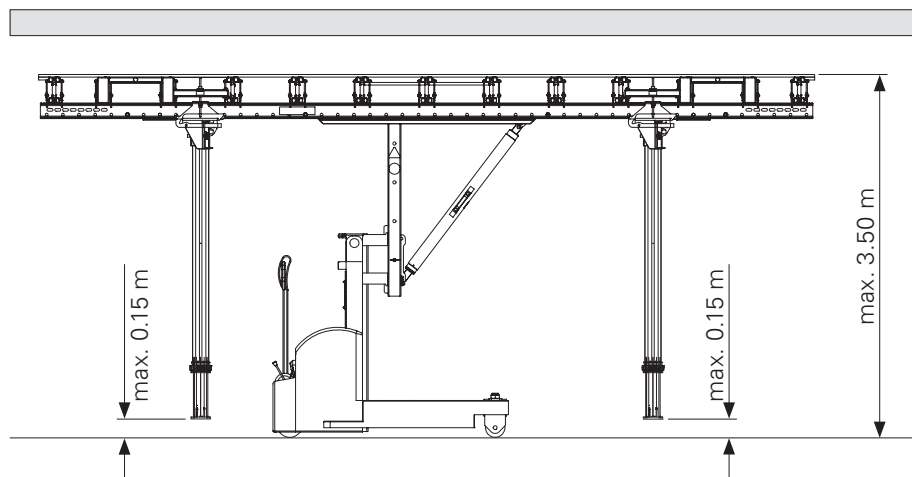

Fig. A9.07
- Move slab tables in a lowered position. Max. moving height 3.50 m, except for MULTIPROP MP 625 = 4.45 m. (Fig. A9.07)